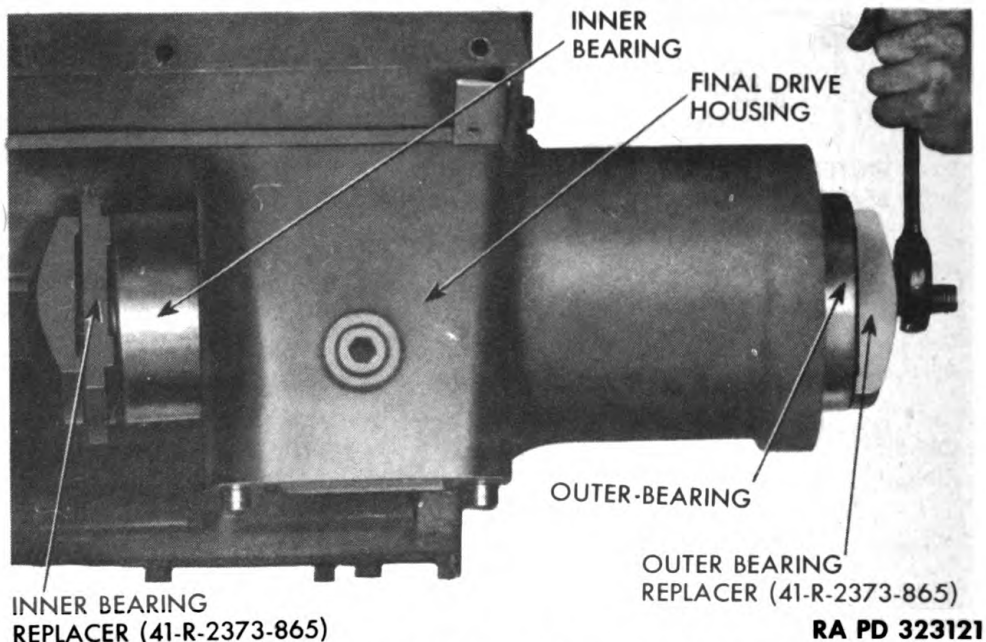

Figure 122 — Installing Final Drive Shaft Bearings
c. **Install Final Drive Gear and Final Drive Shaft Bearings** (fig. 122). Install final drive gear in housing, using blocks to hold it in alinement. Place bearing spacer in position inside housing. Install final drive shaft inner and outer bearing replacer (41-R-2373-865) through spacer and gear; place inner bearing on replacer at inner side of housing, and outer bearing on replacer at outer end of housing. Turn nut on puller clockwise to draw outer and inner bearings in until tight. Shellac new gasket to oil seal retainer, and attach it to housing with six cap screws and lock washers.